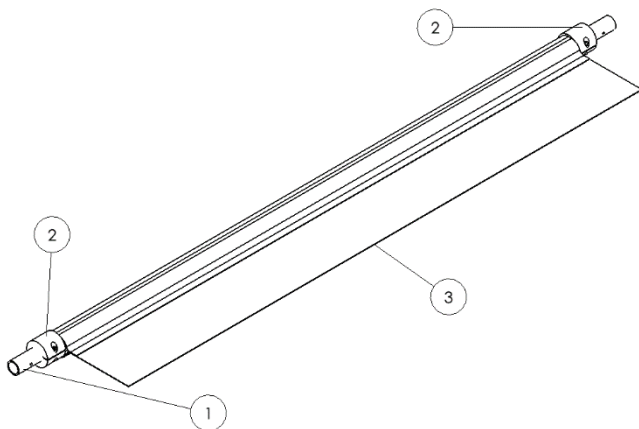

Figure 4.5
On one end of the cross-tube (1) slide on one of the tarp centering flanges (2). Now feed the end of the cross tube without the centering flange through the pocket end of the tarp (3). Place the remaining tarp centering flange on the cross tube as shown in Figure 3.12. Adjust the tarp and centering flange so that the tarp is center on the cross-tube. Tighten the centering flanges to secure them in place. (Figure 4.5)